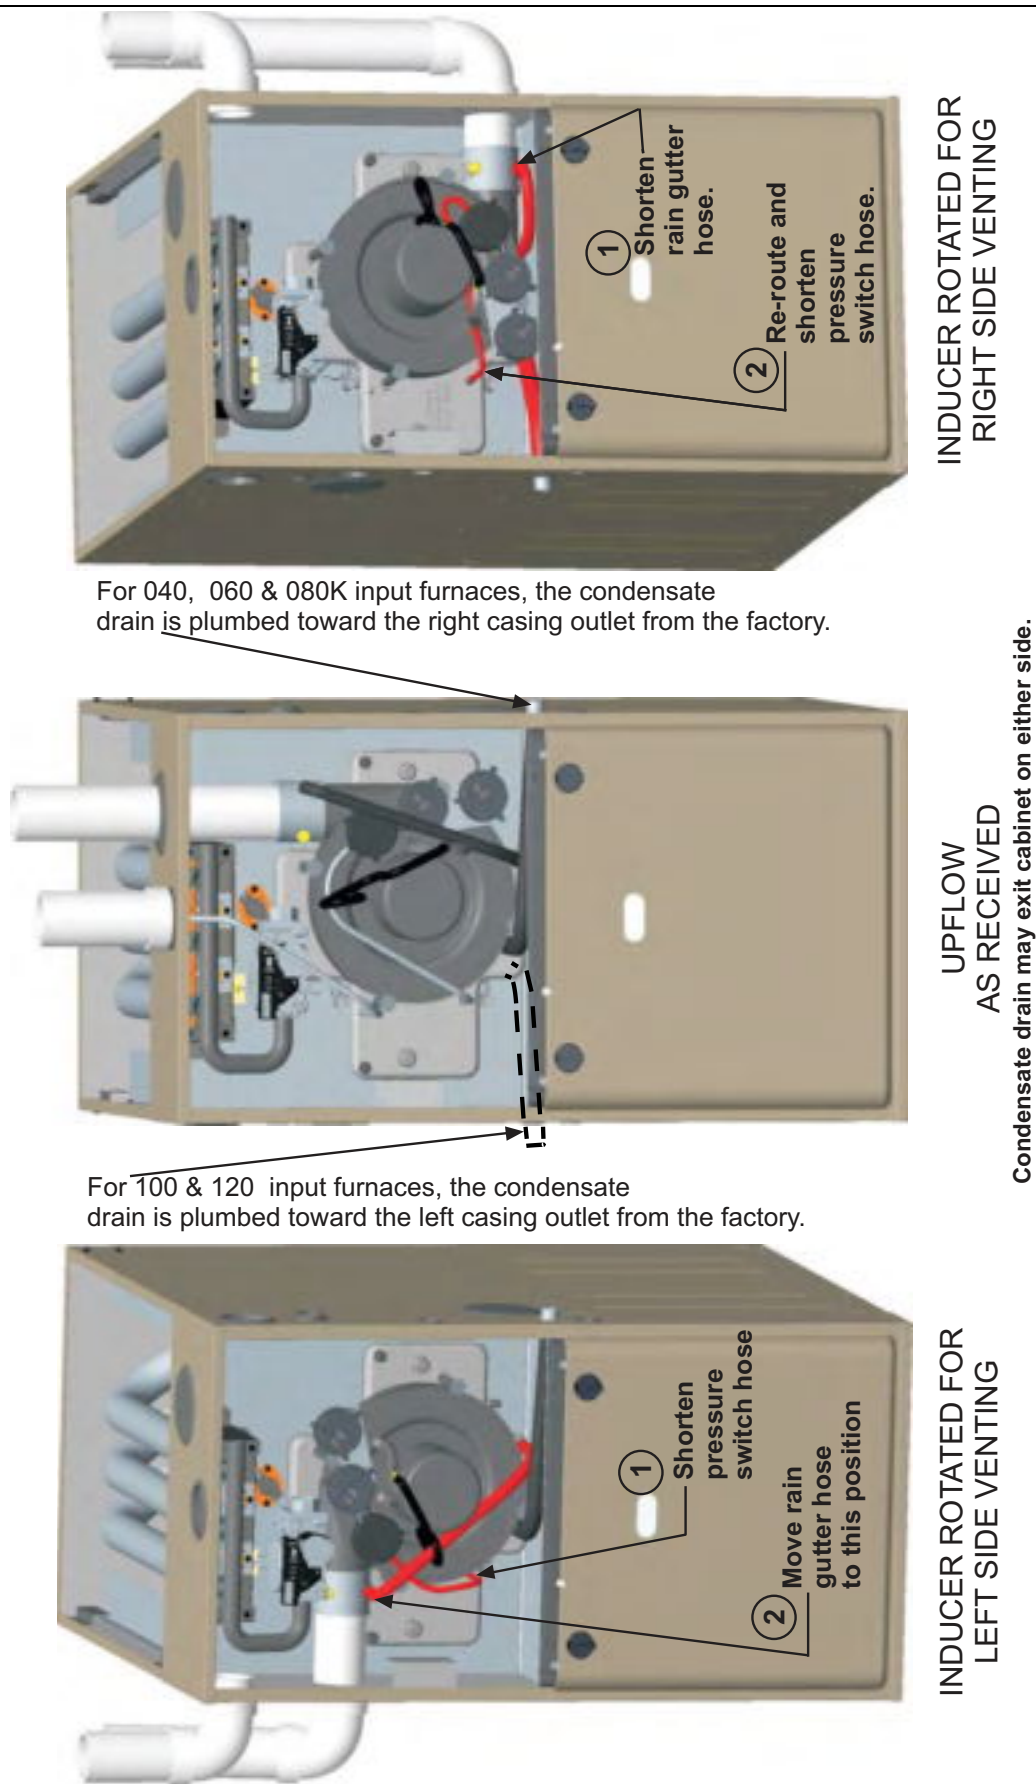

FIGURE 26: Upflow Configuration
The Figures 26 - 29 show the condensate drain arrangement for the various possible furnace and vent blower positions.
*It is possible for condensation to form inside the combustion air (intake) pipe in the summer months if significant length of combustion air pipe passes through conditioned space. This problem can be averted by installing the supplied vent drain and drain hose located in the loose parts bag. The intake drain hose is to be installed by connecting it to the inlet pipe coupling and to the collector box as shown in Figures 26, 28, and 29. The drain hose must not sag or droop after it is installed. If glue is used when connecting the intake pipe to the intake coupling, the drain opening in the vent drain must not be plugged. If the intake drain is used, the bird screen **cannot** be installed. This is only approved for upflow and horizontal applications when the intake pipe is located on the top of the furnace. This is true for all long horizontal venting in any furnace configuration. This will keep condensate from entering the furnace.*